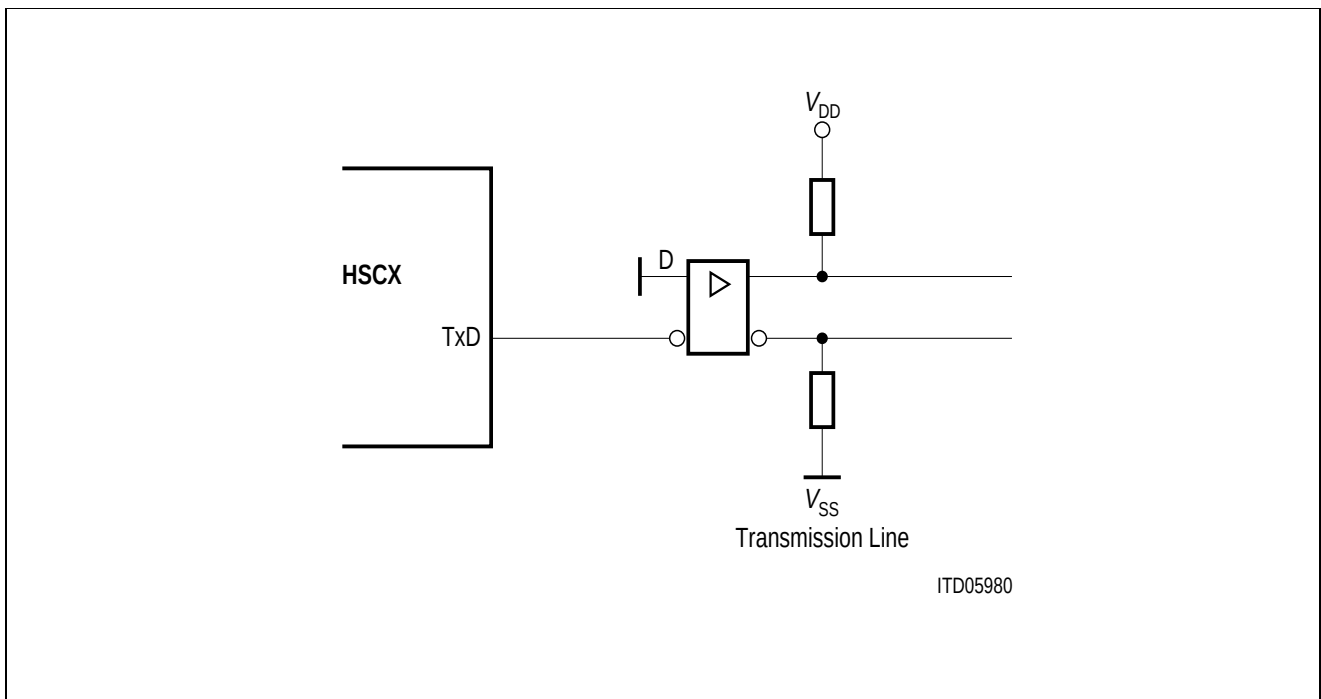

**Figure 25**
- a) Do not use the  $\overline{\text{RTS}}$  signal directly in clock mode 5 e.g. to enable drivers for TxD in a balanced bus configuration. Instead, use an arrangement of the type shown in the **figure 25** or